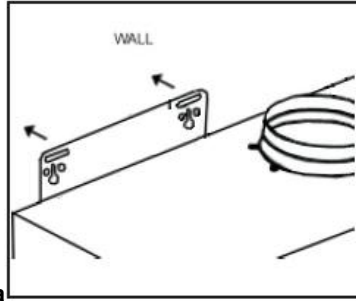

Fig. 2b
- g. Mount the unit onto wall with mounting screws (not included) **(Fig. 2b)**